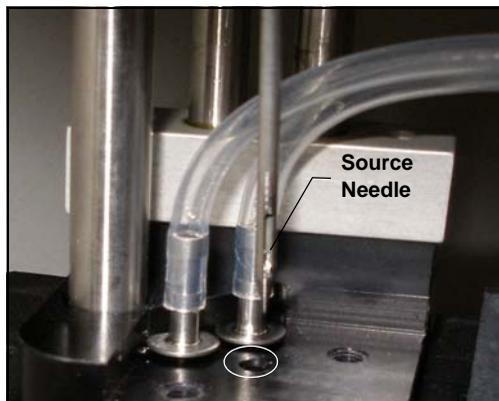

Figure 5-28. Installing the New Source Needle
14. Insert the new source needle assembly (P/N 068955) into the middle opening in the needle block (see Figure 5-28) just until the washer meets the top surface.